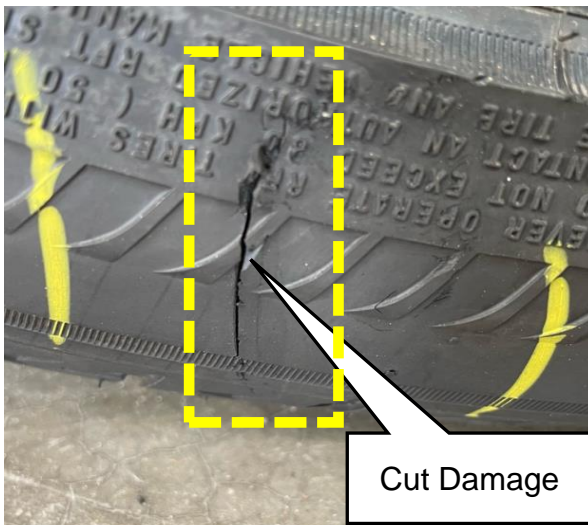

Figure 3
- Figures 3 and 4 show examples of outer sidewall cut damage.